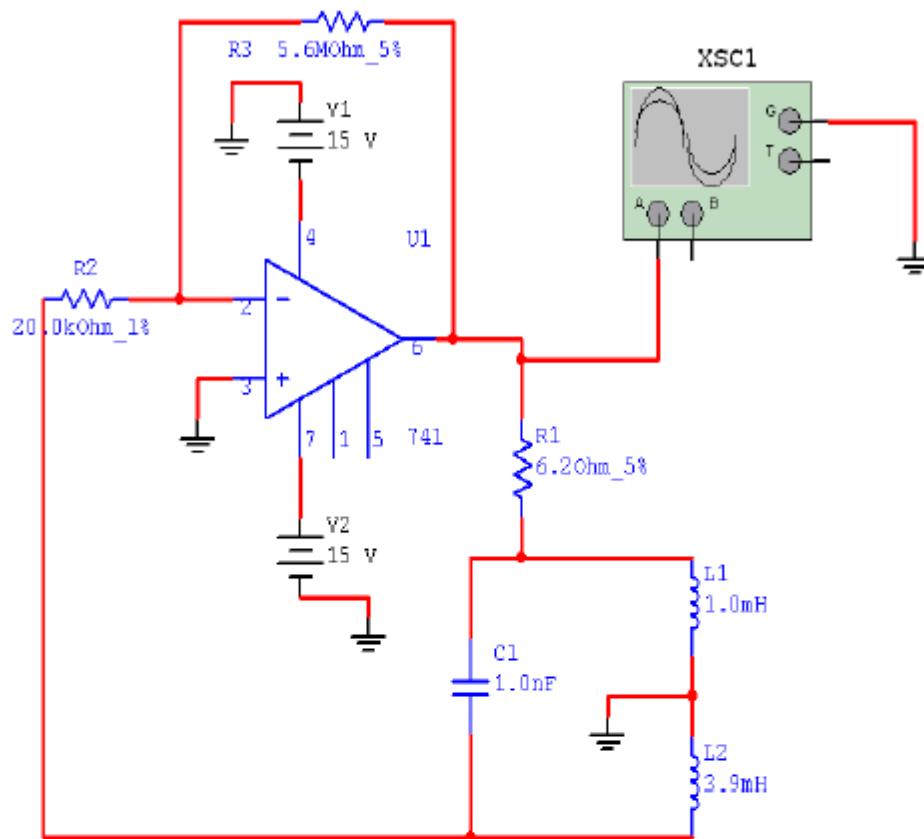

Fig.11 Hartley Oscillator
- Construct the circuit shown in Fig.11.